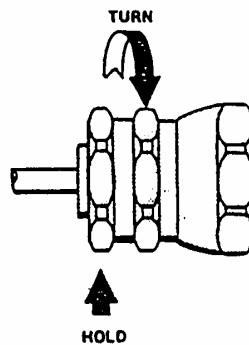

Figure 6 Remove Coupling from Gas Line
3. Use two wrenches to disconnect the coupling body from the adapter. Hold the adapter with one wrench. Remove the coupling body with the other wrench. See Figure 6.